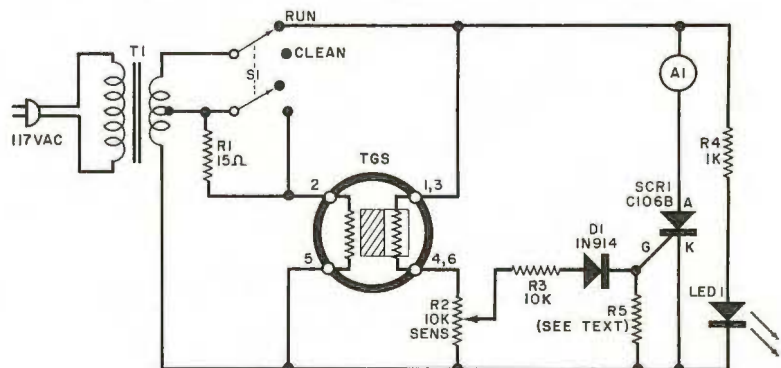

Fig. 1. Basic line-powered gas alarm causes SCR to fire passing current through a 12-volt bell, buzzer, or Sonalert.
**Home Gas Alarm.** The circuit illustrated in Fig. 1 is a line-powered gas
to that shown in Fig. 1 except that it does not get its power from the 117-volt ac line. Regulator IC1 compensates for variations in the vehicle's battery voltage that occur when the generator/alternator cuts in and out. If such variations reach the sensor's filament, changes can occur in the sensor's resistance. Diode D2 increases the heater potential from the nominal 5-volt operating point to about 5.7 volts when S1 is set to CLEAN.